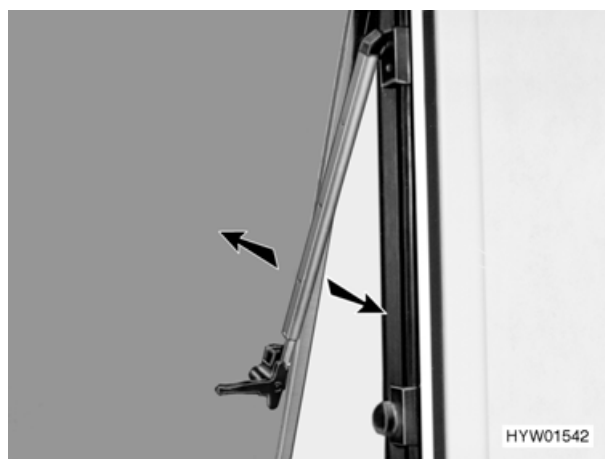

Fig. 20 Hinged window, automatic locking mechanism
- Open the window until the required locking position is reached; the telescopic rod (Fig. 20) automatically locks in place.